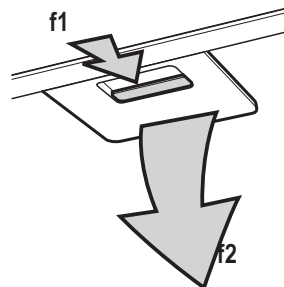

Fig. 4
- First, push the metal grease filter stop (**f1**) backwards, then extract the filter (**f2**), pulling downwards. **Fig. 4.**